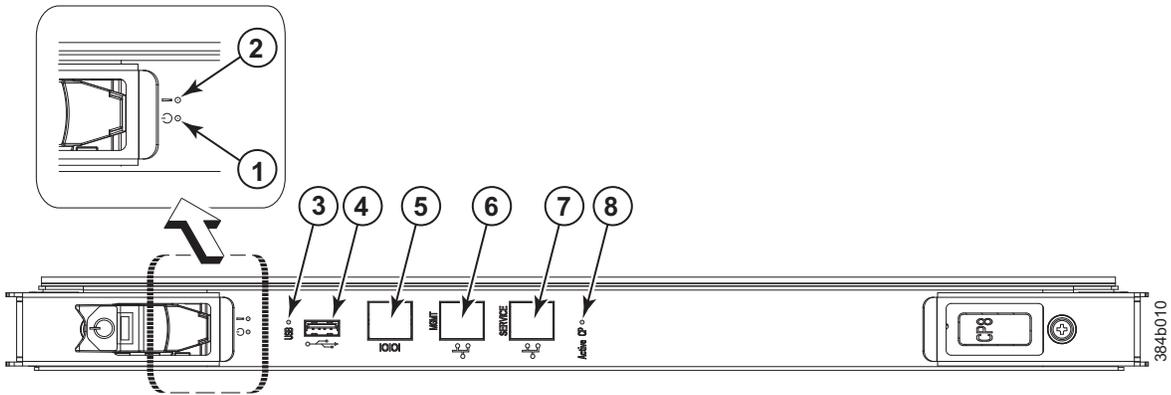

Figure 26. Control processor blade (CP8) LEDs
1. Check the LED indicators on the CP blade (see Figure 26 on page 54). The LED patterns may temporarily change during POST and other diagnostic tests. For information about how to interpret the LED patterns, see Table 10 on page 54.
Figure 26 on page 54 identifies the control processor blade (CP8).